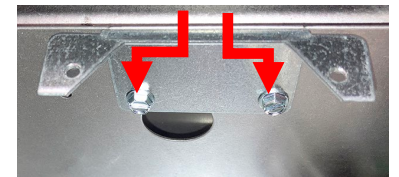

Figure 22
15. Remove the two (2) screws attaching the speaker bracket to the component box (see Figure 22).